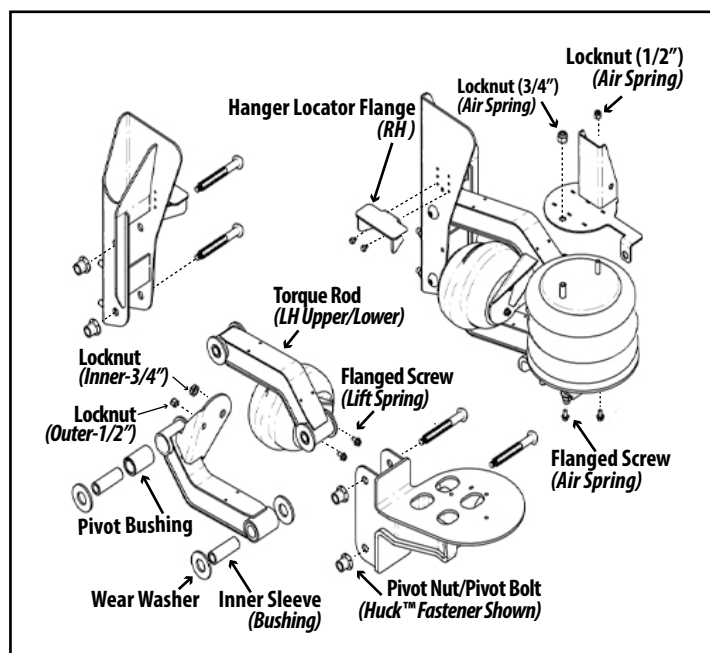

Figure 17. Bushing Replacement Kits include wear washers and traditional hardware components for eight pivot connections.
6. Assemble pivot connection with one wear washer on each side of the bushing. The inner sleeve of the bushing must be flush with or extend slightly past the outside of the wear washers (Figure 17).
1. Replace all bushings at the same time. Cut/Grind away Huck® Collar. Take pivot connection apart. Discard pivot hardware and wear washers (Fig 17).